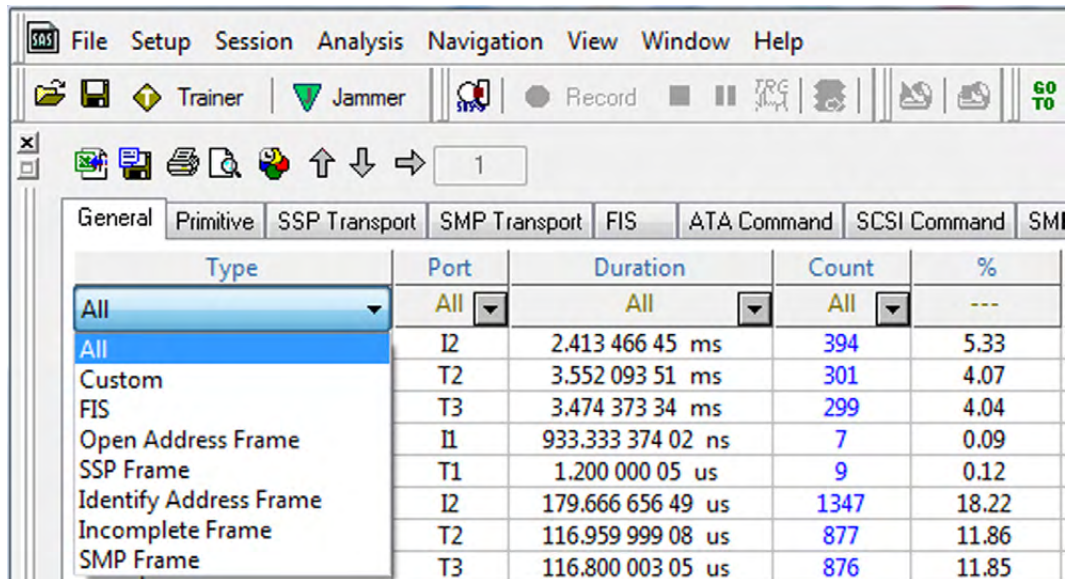

Figure 3.51: Statistical Report: General --> Type Descriptions
- ❑ **Type** contains: All, Custom, FIS, Open Address Frame, SSP Frame, Identify Address Frame, Incomplete Frame and SMP Frame (see Figure 3.51).